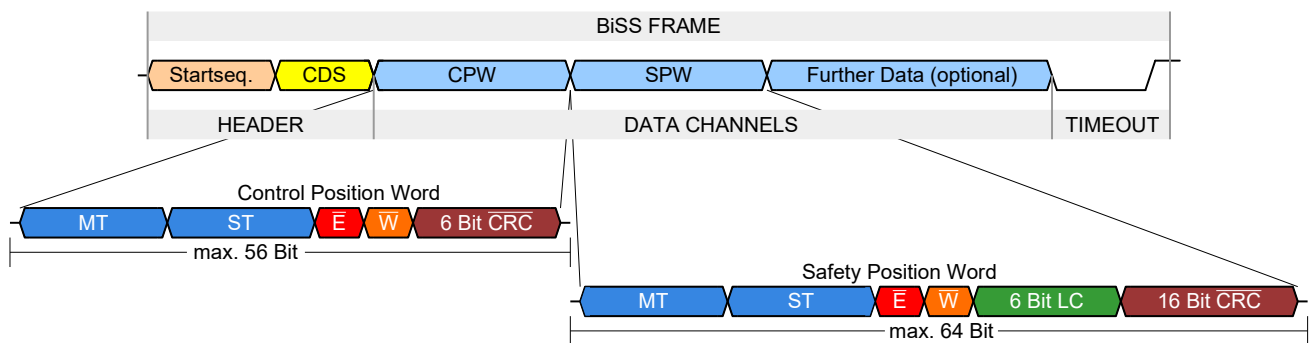

Figure 2: Data channel contents according to the *BiSS Safety* profile
Usually, the CPW is a high resolution position word and used for motor feedback. As shown in Figure 2, the CPW may contain multiturn information (MT), which is the number of full mechanical revolutions, and single-turn information (ST), which is the angle information within one mechanical revolution. Validity of the position can be indicated to the *BiSS* master with an error ( $\bar{E}$ ) and a warning bit ( $\bar{W}$ ). Position, error bit and warning bit are protected against transmission errors with a